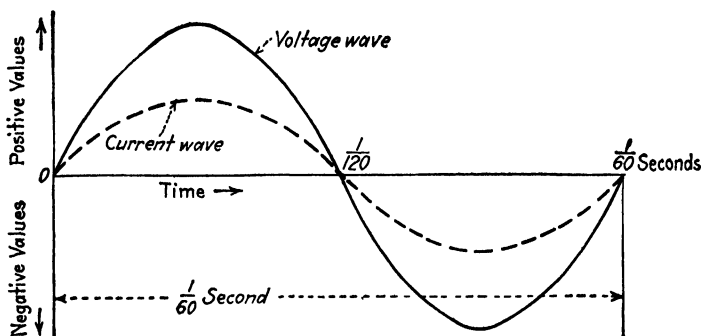

FIG. 1-44. Voltage and current waves in phase. The power factor under these conditions is unity.
**Power Factor.** When an alternating voltage and the current which it causes to flow rise and fall in value together and reverse in direction at the same instant, the two are said to be "in phase" and the power factor is unity. This condition is illustrated in Fig. 1-44. The same